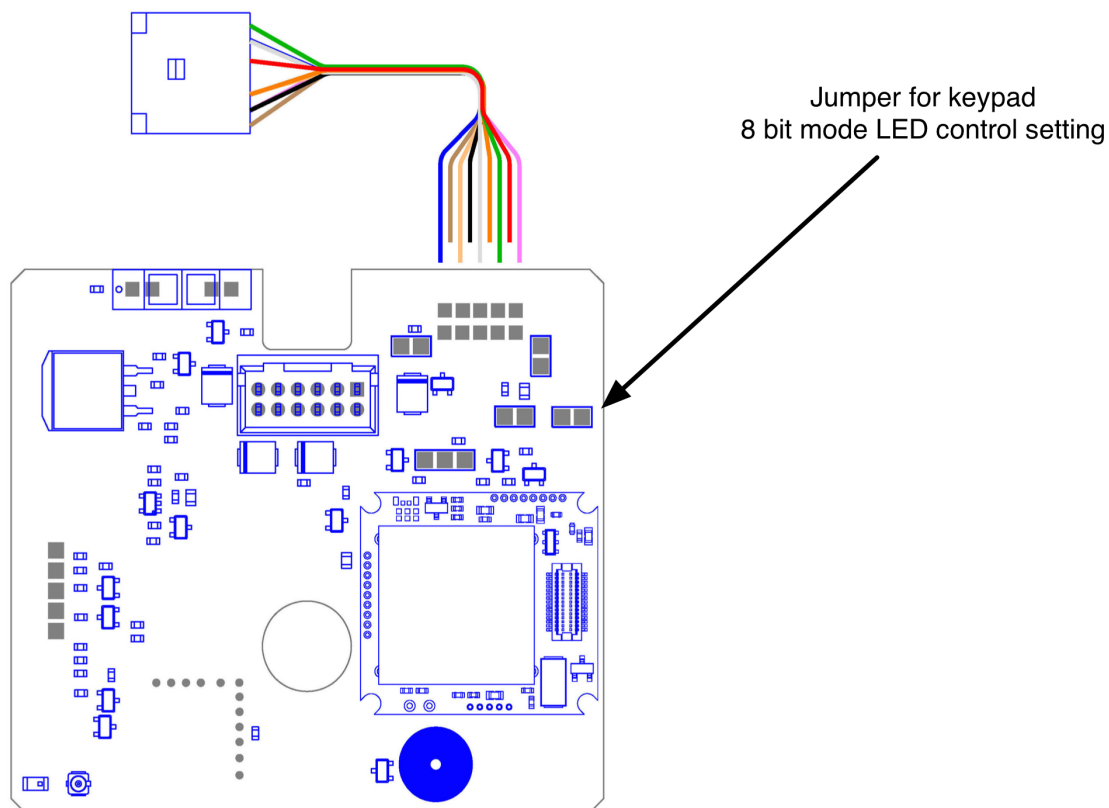

Figure 2 Keypad in 8 bit mode LED Control Jumper Location
4.3.1. When a keypad is installed, (in the 8-bit mode), its' LEDs may be controlled in two ways; independently, where grounding the yellow wire will only turn on the red LED, & grounding the brown wire will only turn on the green LED. Or, with the jumper installed as shown in figure 2, grounding the brown wire will toggle the LEDs on the keypad from red to green. Whichever LED is currently illuminated will blink with every keypress.